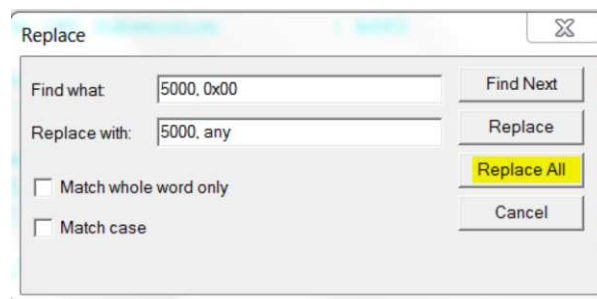

Figure 1. Editing the BTS File for Use in HCITester Tool
- Replace the “0x00” value in the “Number of HCI Commands” parameter to “any” by selecting Edit → Replace → Replace All and configuring the parameters as shown in Figure 1.